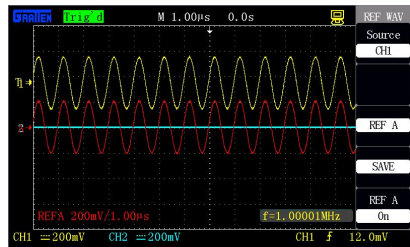

Figure 2-23 Reference waveform
6. Select "REF A ON" or "REF B ON" to recall the reference waveform, as shown in figure 2-23.